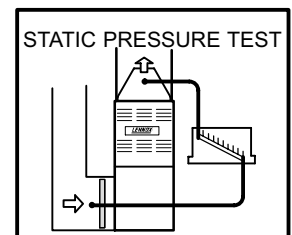

FIGURE 40
- 1 - Tap locations shown in figure 40.